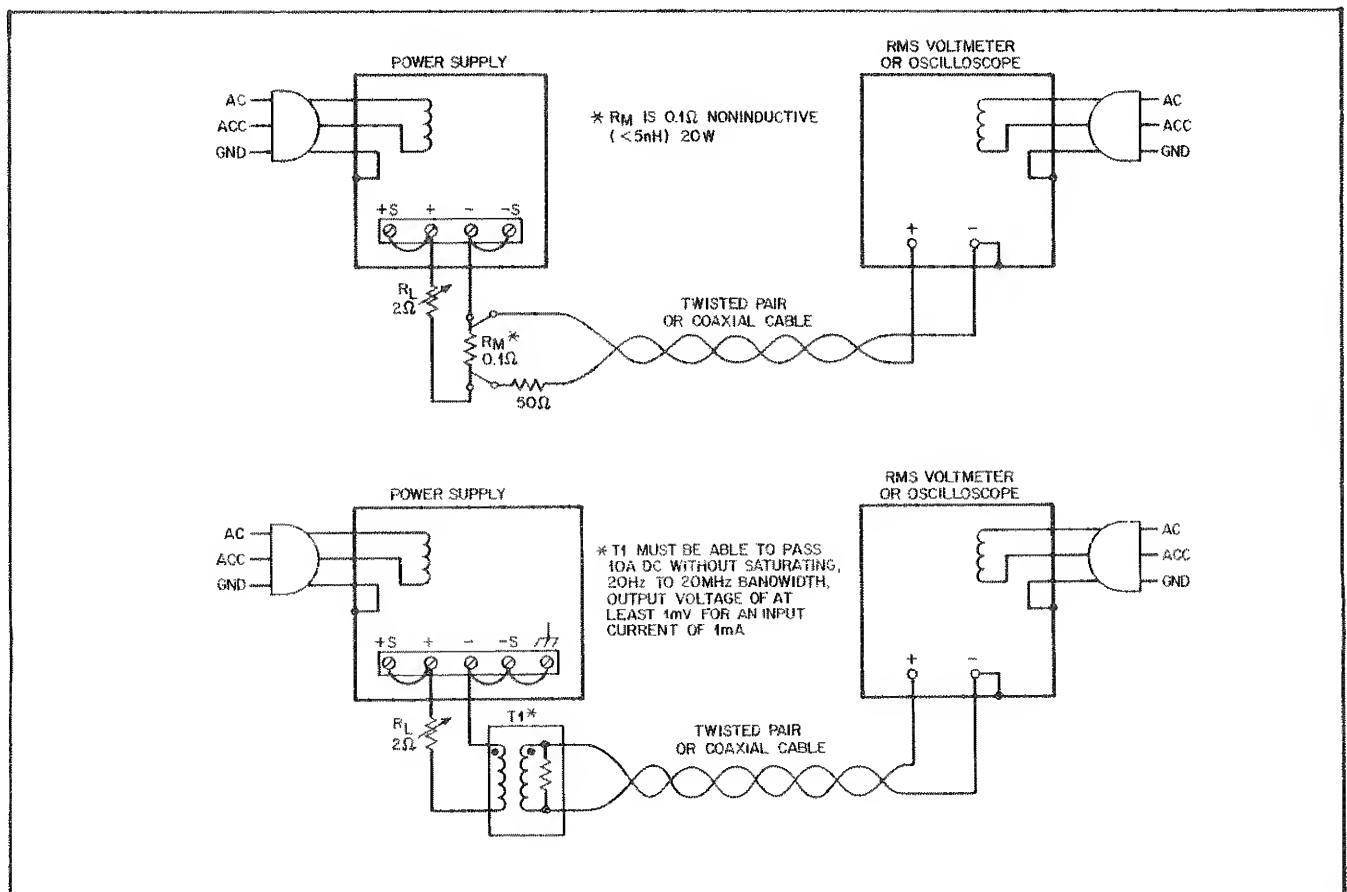

Figure 5-8. Constant-Current Ripple and Noise Measurement Test Setup
5-50 Most of the instructions pertaining to pickup problems associated with constant-voltage ripple and noise measurement also apply to the measurement of constant-current ripple and noise. Figure 5-8 shows two test setups that can be used when measuring the ripple and noise of a constant-current supply. Either test setup can be used depending on the availability of an appropriate monitoring resistor.
5-51 The current-monitoring resistor (R_M) in Figure 5-8 can be constructed of parallel-connected resistors. It must have very low inductance to prevent the high frequency components of CC ripple from causing a misleading voltage drop. A current probe/amplifier combination such as Tektronix P6302 probe and AM503 amplifier can be used for the current-monitoring transformer (T1) in Figure 5-8B.
- a. Connect oscilloscope or rms voltmeter as shown in Figure 5-8.